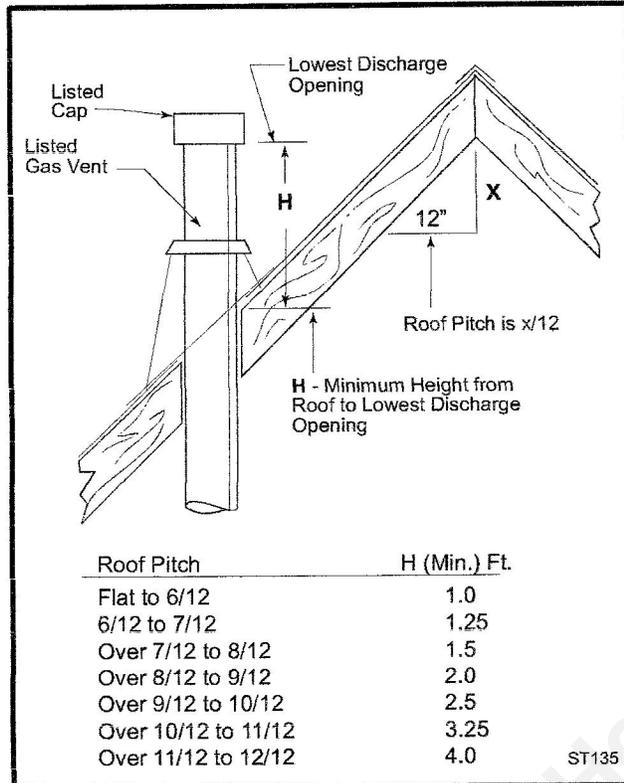

Fig. 9 Vent (chimney) height.
- Termination height must conform to roof clearance as specified in Figure 9.